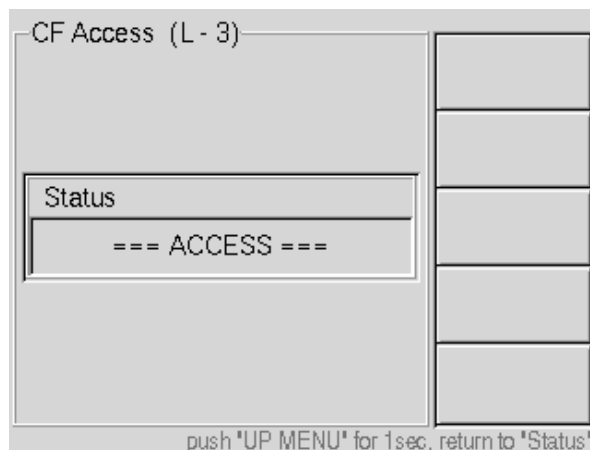

Figure 5-35 CF Access (3)
- (6) The access lamp by the connector lights while ACCESS is in progress (see Figure 5-35).